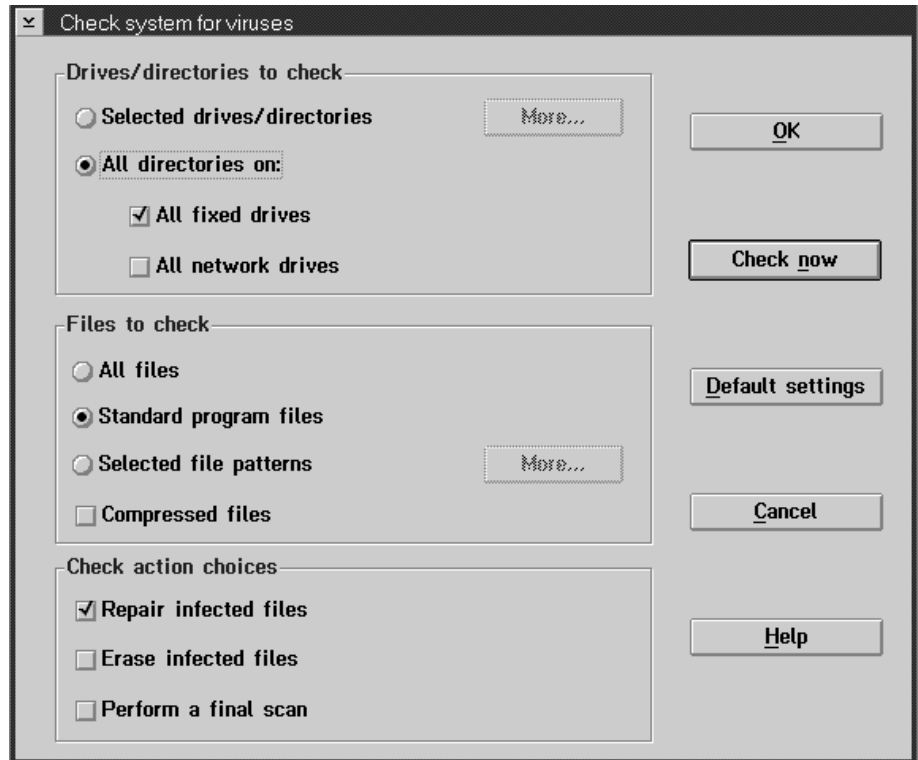

Figure 117. Check system for viruses window
The Check system for viruses window is displayed, as shown in Figure 117 on page 197.
4. Set the drive and directory to be checked, in this example F:\TMP, and click on the **OK** push button. The Check system for viruses window is displayed again, as shown in Figure 117 on page 197.